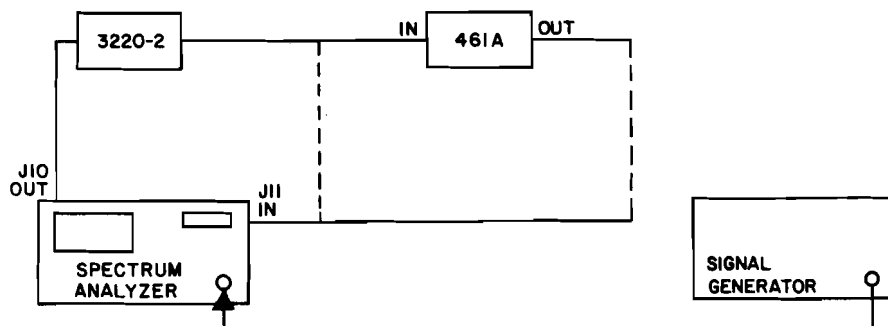

Figure 4-2. IF Attenuator, and Display Accuracy Test Set-Up
1. Connect test set-up as shown in Figure 4-2. Connect the external precision attenuator between the 21.4 MHz IN and OUT connectors J10 and J11 on the rear panel without the 461A amplifier.
1. Connect test set-up as shown in Figure 4-2 and connect jacks J10 and J11 directly.